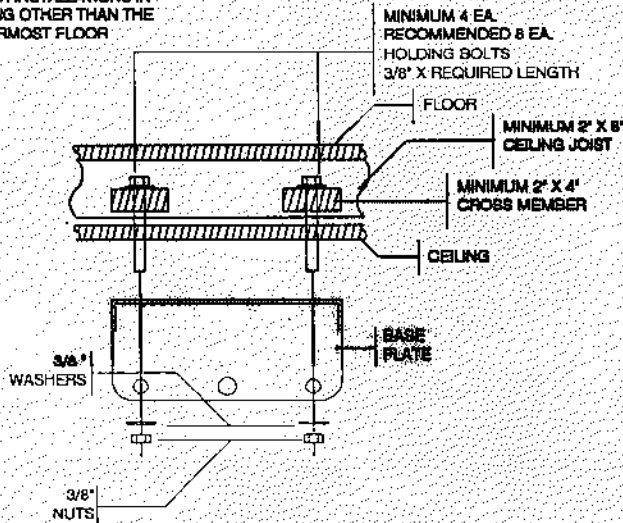
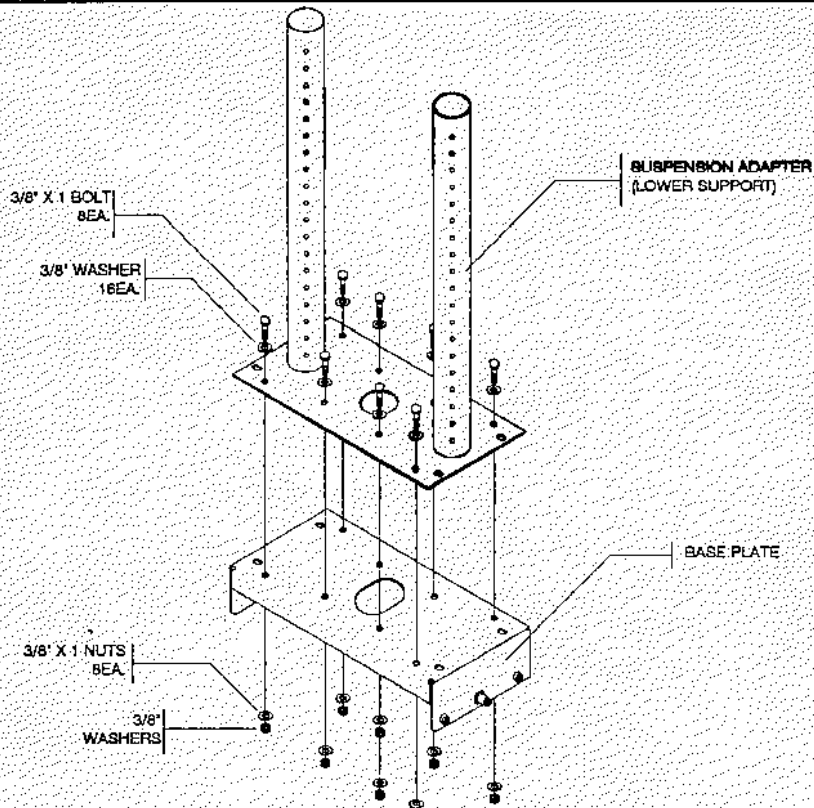

FIGURE C-2.
FIGURE C-3.
- STEP 2: Install the base plate (69231) as shown in Figure C-2 for direct ceiling mounting. Install as shown in Figure C-3 when mounting on an adjustable suspension adapter (P/N: 69230). Use 8 each 3/8" x 1" bolts, 3/8" hex nuts and 16 each 3/8" flat washers (supplied) to bolt the base plate (69231) to the adjustable suspension adapter (69230).